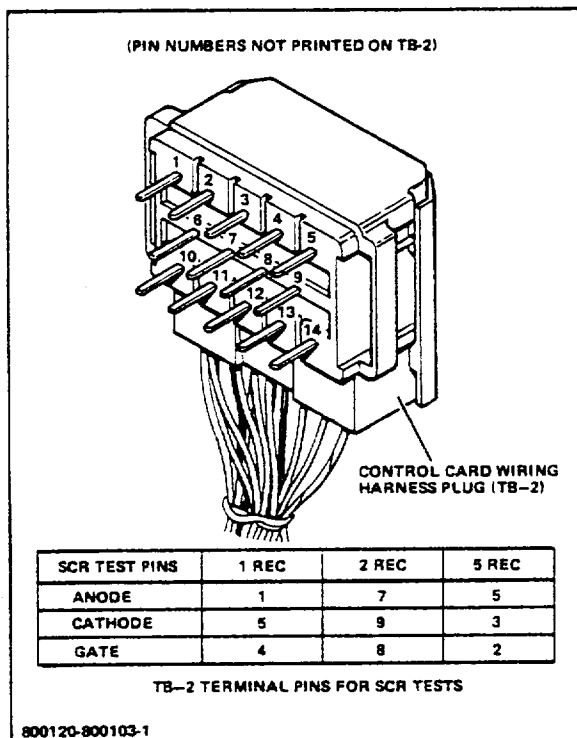

Figure 3-6. TB-2 Terminal Pins For SCR Tests
- (1) Disconnect the battery and discharge the capacitors by momentarily touching a suitable jumper wire across all capacitor terminals.
- (2) Refer to Topic 4, and remove the wiring harness plug from the oscillator card.
- (3) Refer to Figure 3-6, and note the location of the pins on the oscillator card plug (TB-2). Pin numbers do not appear on the plug itself.